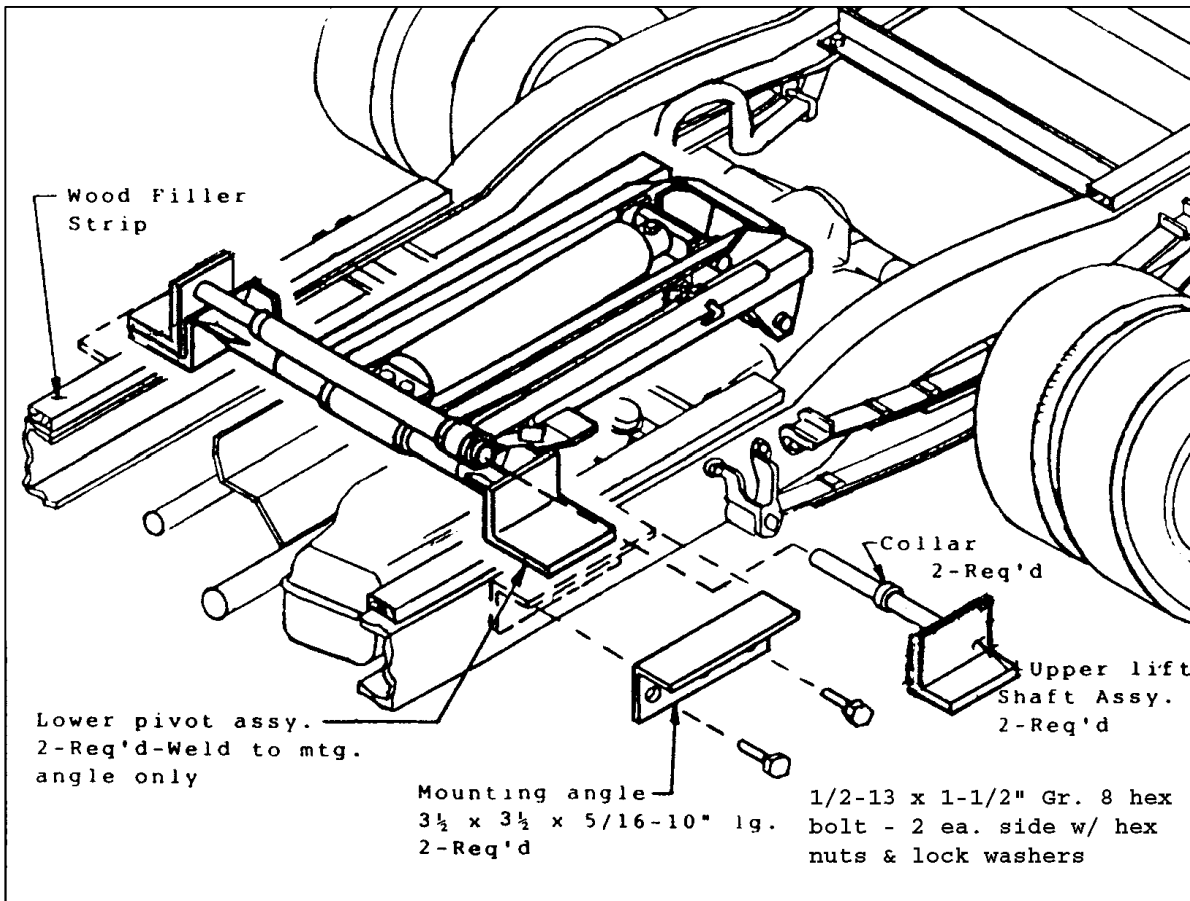

Figure 3 Mounting Angle/Lower Pivot Assembly
D. Locate the hoist on the truck frame, making sure to center and square the hoist to the truck frame. The VC-416/516 hoist is designed to rest on the truck frame as shown in Fig.3. A section of the hoist extends below the truck frame level, thus the hoist may have to be moved slightly forward or backward to avoid frame crossmembers. The distance between the rear hinge assembly center and hoist dimension. Table "A", figure 1 refers to dump angles associated with the "M" dimension.
▲ E. After the hoist is positioned, place a mounting angle (Fig. 3) under each of the lower pivots and against the truck frame. Clamp securely in place. Drill through the mtg. angle and frame (17/32") and fasten mounting angle with two [2] 1/2-13 X 1-1/2" hex head grade 8 bolts, lock washers and hex nuts (both sides).
F. With the hoist lower pivot assys. clamed to the mounting angles (3-1/2x3-1/2x5/16-10" lg.), weld the lower pivot assy. to the mounting angles. Position and secure the filler strips (wood or steel) to the truck frame (see fig. 3) The VC416/516 hoist requires at least 5-3/4" clearance above the truck frame.